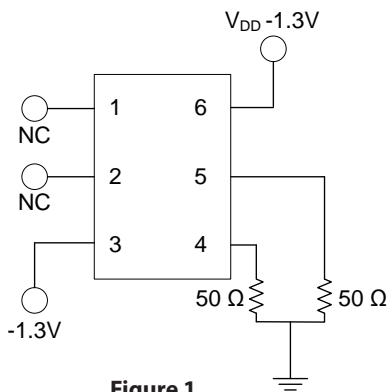
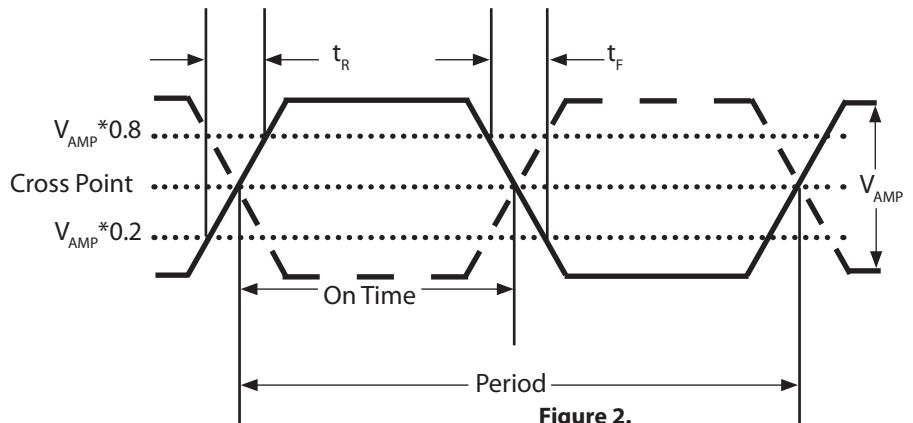

Figure 1.
Figure 2.
3. Figure 1 defines the test circuit and Figure 2 defines these parameters.